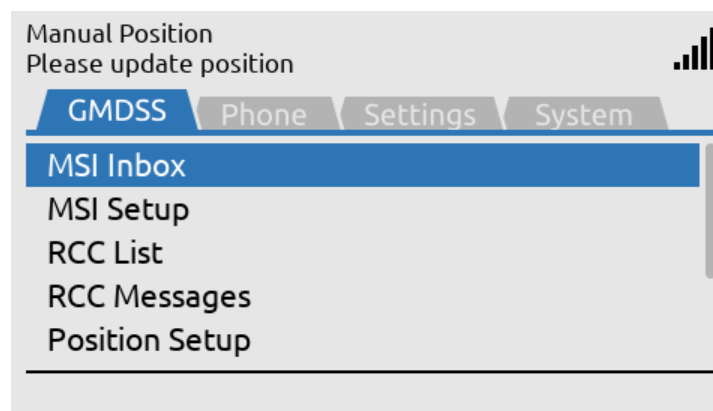

Figure 34: LT-3110S Control Unit - UI display (main menu).
- **MENU / BAM button:** The MENU button is used to open the main menu, as illustrated in Figure 34. The BACK, arrows, and ENTER buttons are used to navigate in the menu layout. Press the MENU button to exit the menu from anywhere in the menu tree (instead of multiple BACK button presses). Long-press ($> 1 s$) the MENU / BAM button and the BAM Alert List will be showed.
The LT-3100S GMDSS system's main menu is accessed by pressing the MENU button on the keypad. The user will be presented with a layout as illustrated in Figure 34.